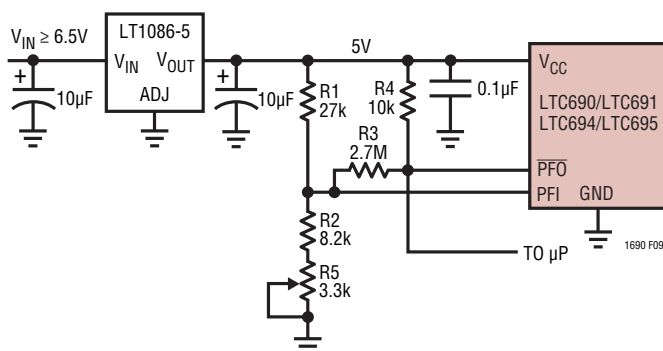

Figure 9. Monitoring *Regulated* DC Supply with the LTC690's Power-Fail Comparator
**Example 2:** The circuit in Figure 9 can be used to measure the regulated  $5V$  supply to provide early warning of power failure. Because of variations in the  $\text{PFI}$  threshold, this circuit requires adjustment to ensure the  $\text{PFI}$  comparator trips before the reset threshold is reached. Adjust  $R5$  such that the  $\overline{\text{PFO}}$  output goes low when the  $V_{\text{CC}}$  supply reaches the desired level (e.g.,  $4.85V$ ).